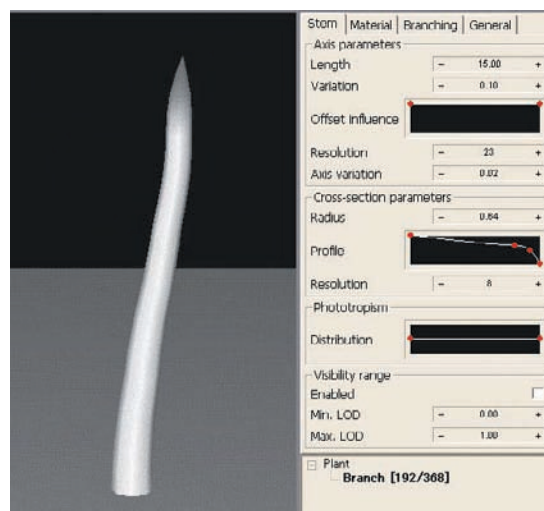

Figure 7.26 Stem parameter values for the trunk
1. Start up ngPlant. Select the item Branch in the tree structure window in the lower right. This will be the trunk of the palm tree. The numbers beside the Branch entry in the tree structure window indicate the number of faces and vertices that make up the model up to this level of branching. Set the parameters in the Stem tab as shown in Figure 7.26. The main parameters to take note of are the Axis parameters and the Cross-section parameters. The shape of the trunk tapers slowly until the top, and then tapers sharply, as determined by the Profile curve. Place the two red control points by clicking the LMB on the curve and dragging. Place the two red control points by clicking the LMB on the curve and dragging.